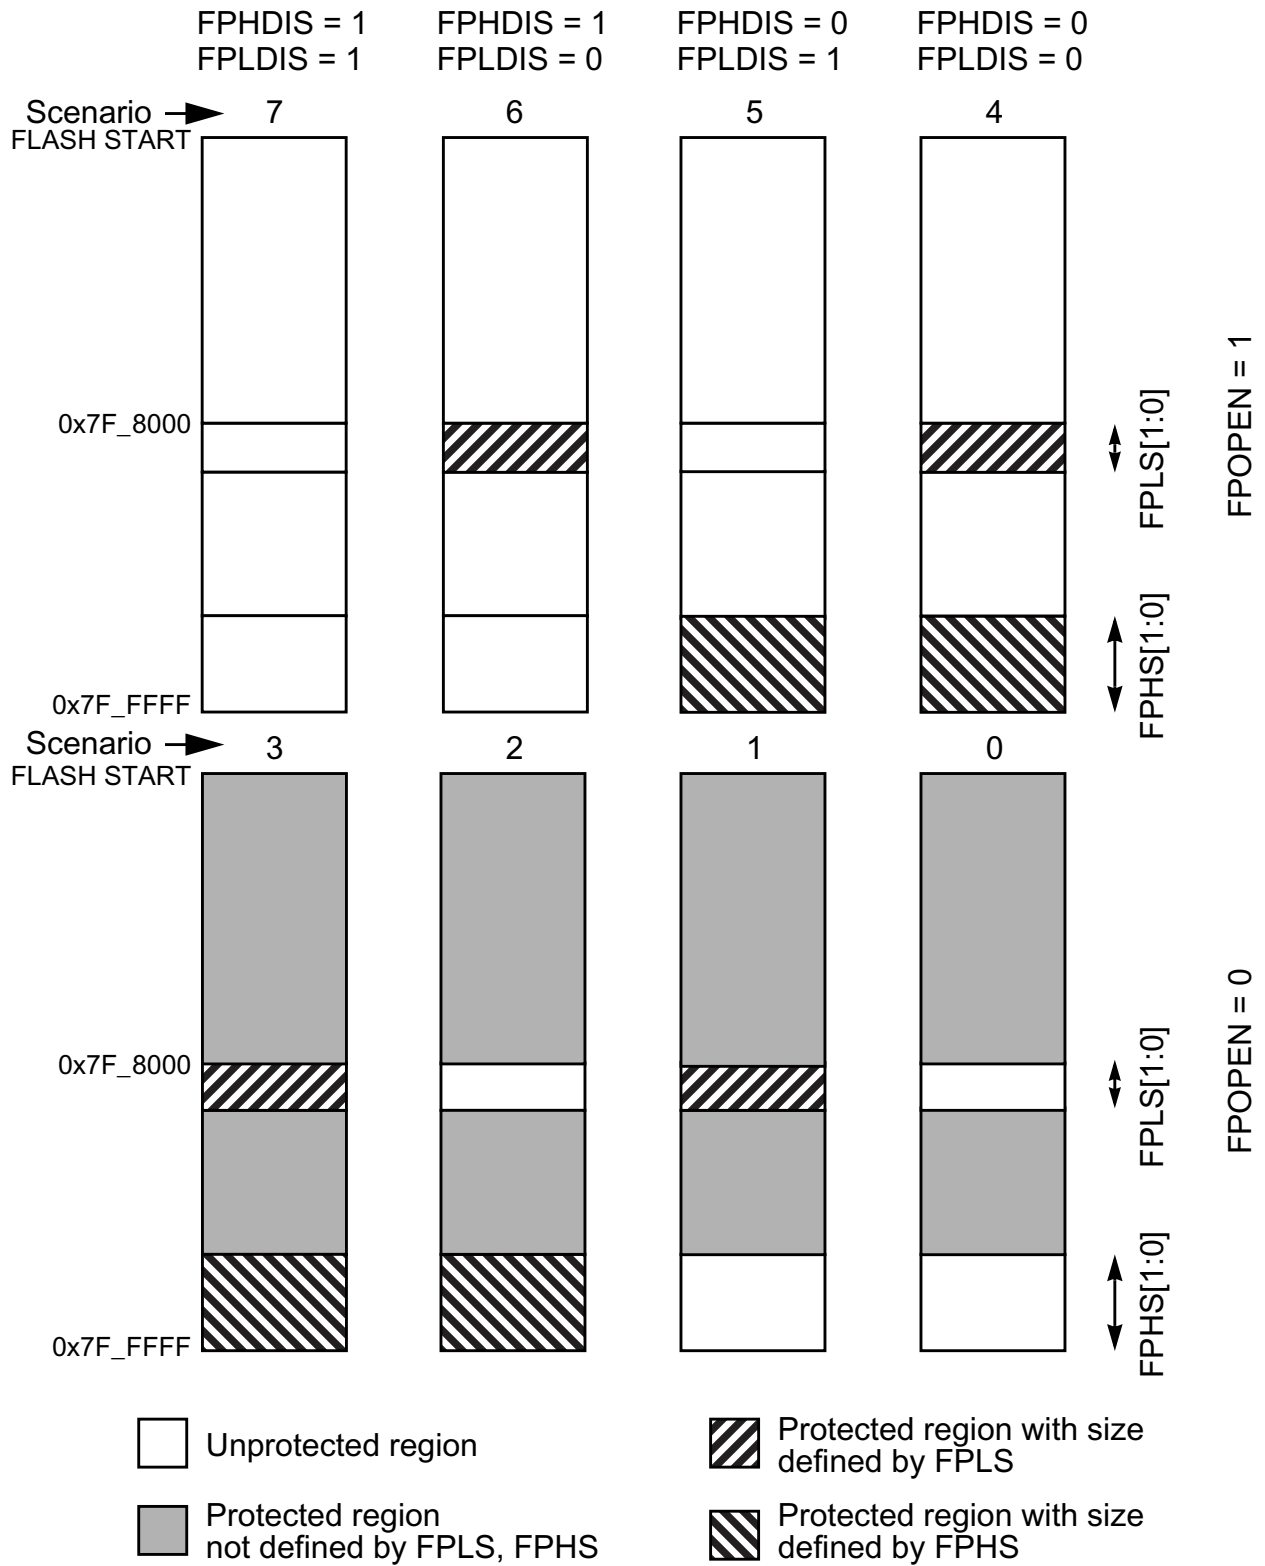

Figure 4-14. P-Flash Protection Scenarios
All possible P-Flash protection scenarios are shown in Figure 4-14. Although the protection scheme is loaded from the Flash memory at global address 0x7F\_FF0C during the reset sequence, it can be changed by the user. The P-Flash protection scheme can be used by applications requiring reprogramming in single chip mode while providing as much protection as possible if reprogramming is not required.
1. Allowed transitions marked with X, see Figure 4-14 for a definition of the scenarios.